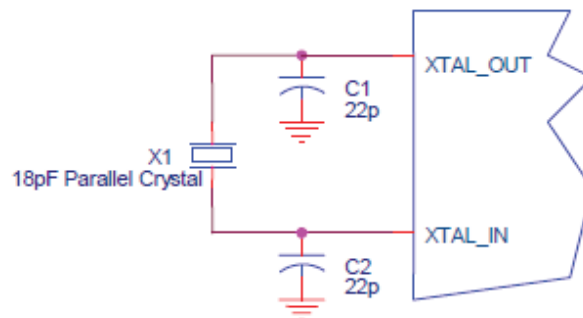

Figure 2. CRYSTAL INPUT INTERFACE
*Figure 2* below were determined using a  $25\text{MHz}$ ,  $18\text{pF}$  parallel resonant crystal and were chosen to minimize the ppm error.